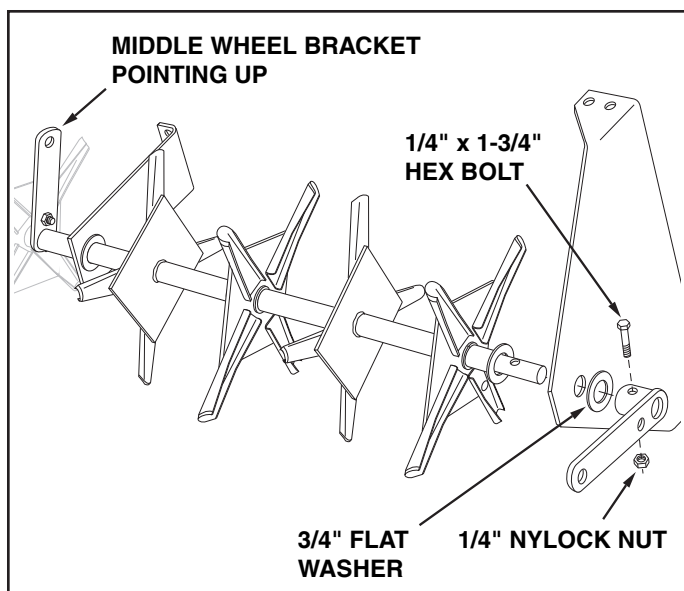

FIGURE 5
- Rotate the wheel bracket fastened to the middle of the shaft so that it is pointing upward. Assemble an end plate, a 3/4" flat washer and a second wheel bracket onto the **long end** of the shaft. Point this wheel bracket as shown in figure 5. Secure it to the shaft using a 1/4" x 1-3/4" hex bolt and 1/4" nylock nut. **Tighten**. Repeat on short end of shaft.